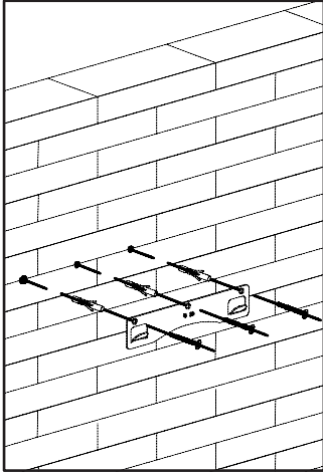
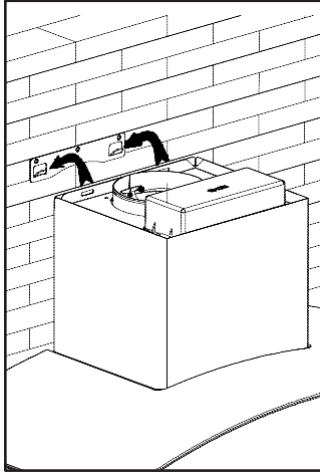

FIG.2
FIG.3
- If the hob is electric, gas, or induction, the minimum distance between the same and the lower part of the hood must be at least 65 cm. If a connection tube composed of two parts is used, the upper part must be placed outside the lower part (Fig.3).
Drill 3 holes to accommodate the bracket (Fig.2). Screw and tighten the bracket onto the wall with the screws & screw plugs provided. Lift the cooker hood up and hang it onto the wall bracket hook (Fig.3).